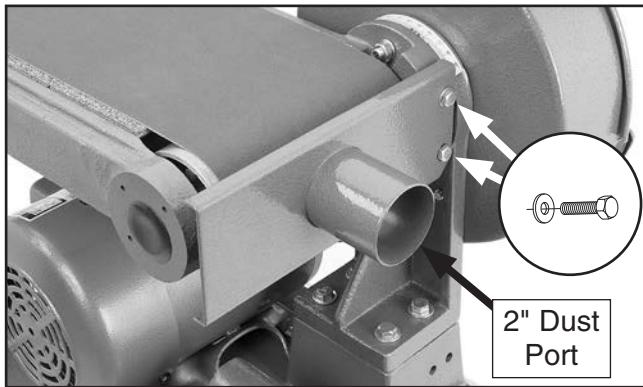

Figure 34. 2" dust port installed.
- 19.** Install the 2" dust port onto the back of the sanding belt frame with the pre-installed 1/4"-20 x 1/2" hex bolts and flat washers, as shown in **Figure 34**.